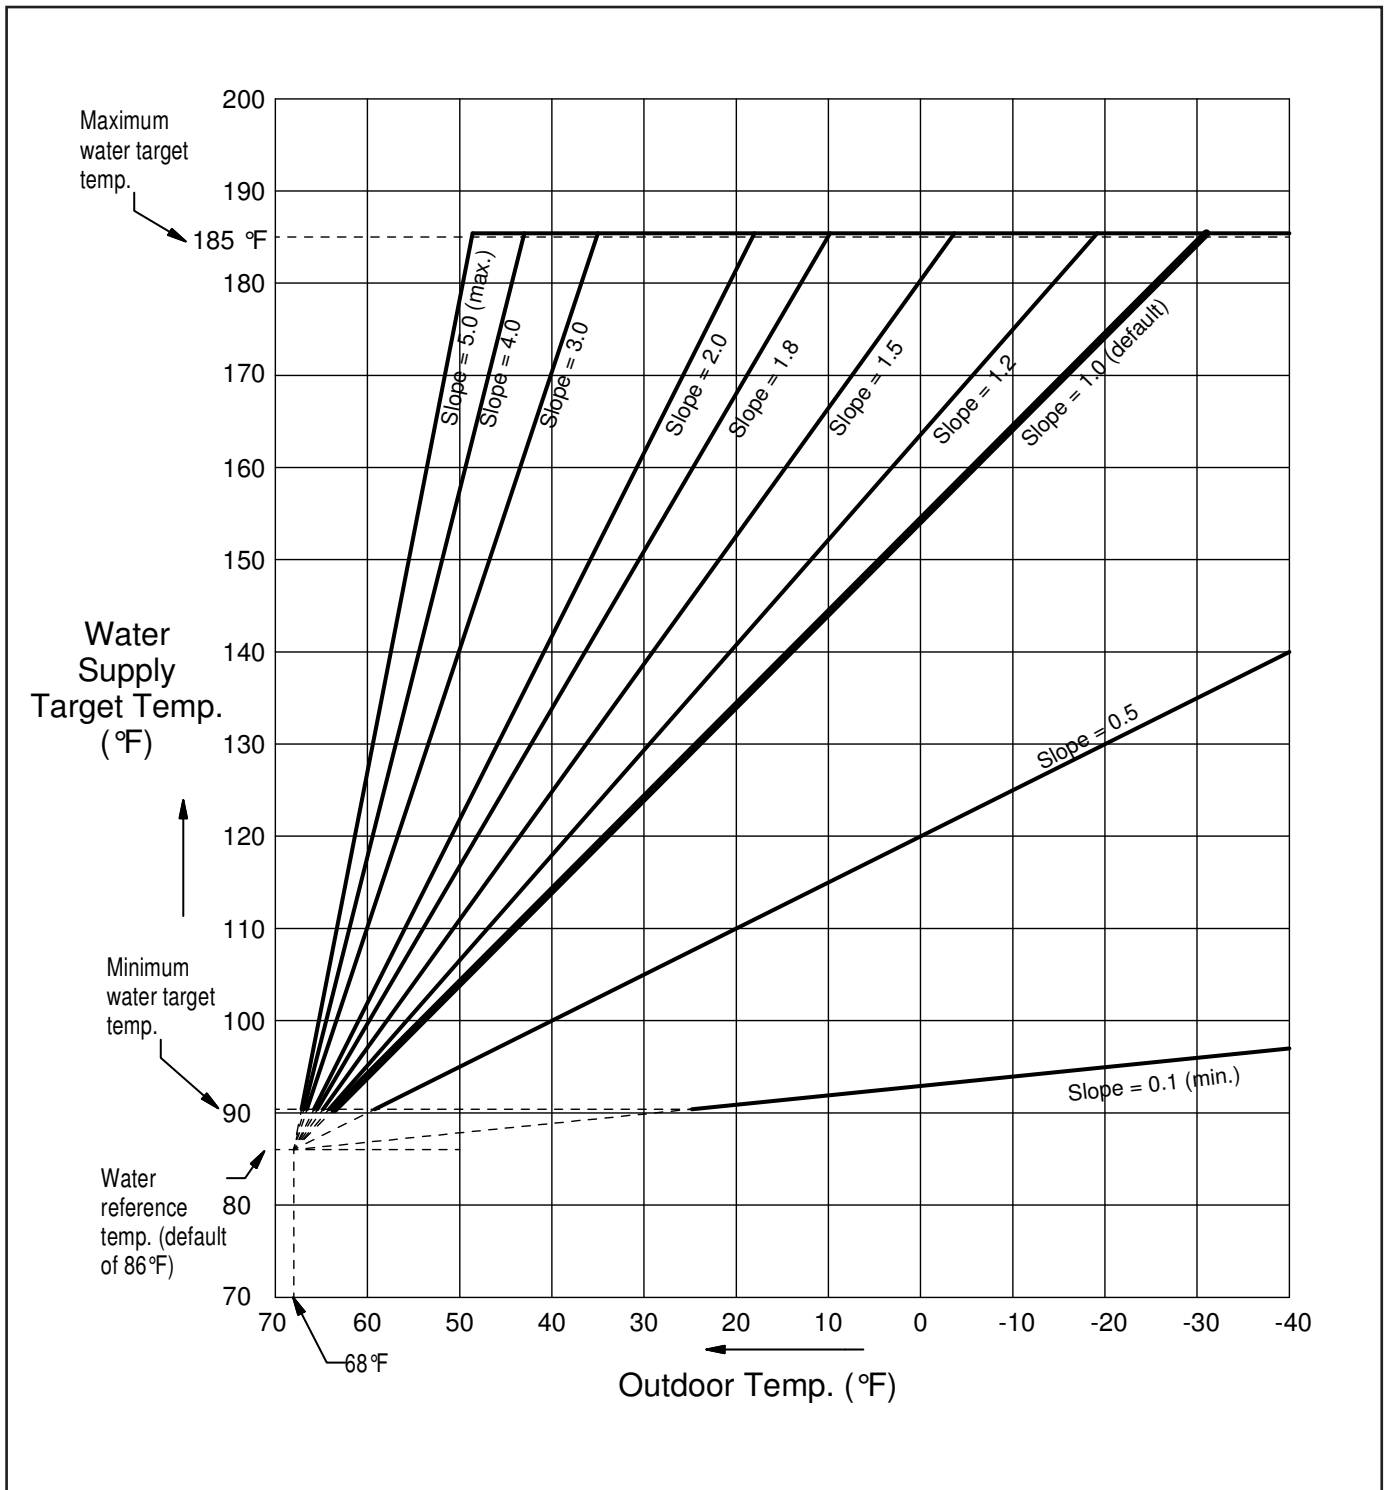

Figure 25. Space Heating mode with outside sensor water set point graph.
3. Weather compensation slope and set point temperature may be changed (if outside sensor is used). (See Figure 25 for graph).
5. Open the gas supply shut-off valve, by turning the handle to be parallel to the gas piping (See Figure 25).
6. Wait five (5) minutes (longer for propane) to clear out any gas, then smell for gas, including near the floor. If you then smell gas, **STOP!** Follow "B" in the safety information above on this page. If you don't smell gas, go to next step.
3. Close the gas supply shut off valve, by turning the handle to be perpendicular to the gas piping. (See Figure 25).